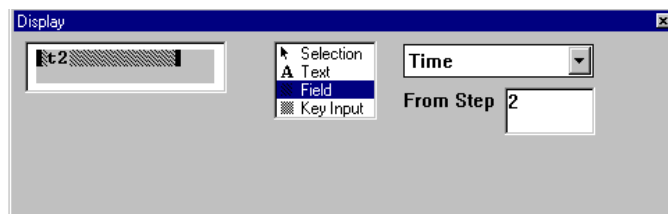

Figure 2-57 Display - Field Object for “Location” Handler’s Time
- If you want the time from the “Location” Handler, choose **Time** from the pop-up menu and enter a **2** in the **From Step** section (Figure 2-57).